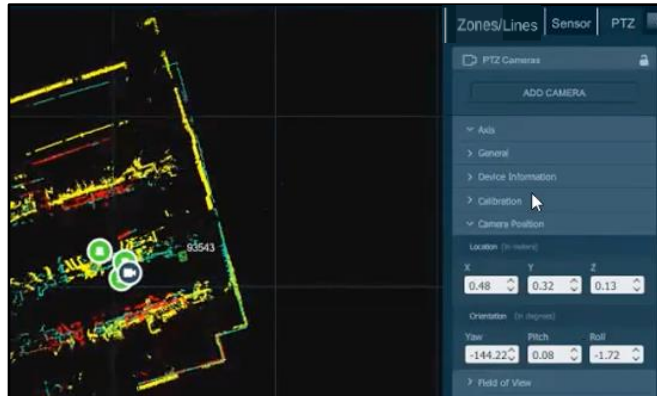

Figure 76. PTZ Camera Calibration: Verify Camera Position
- View the PTZ calibrated values. Expand the **Camera Position** tab. See Figure 76. PTZ Camera Calibration: Verify Camera Position.